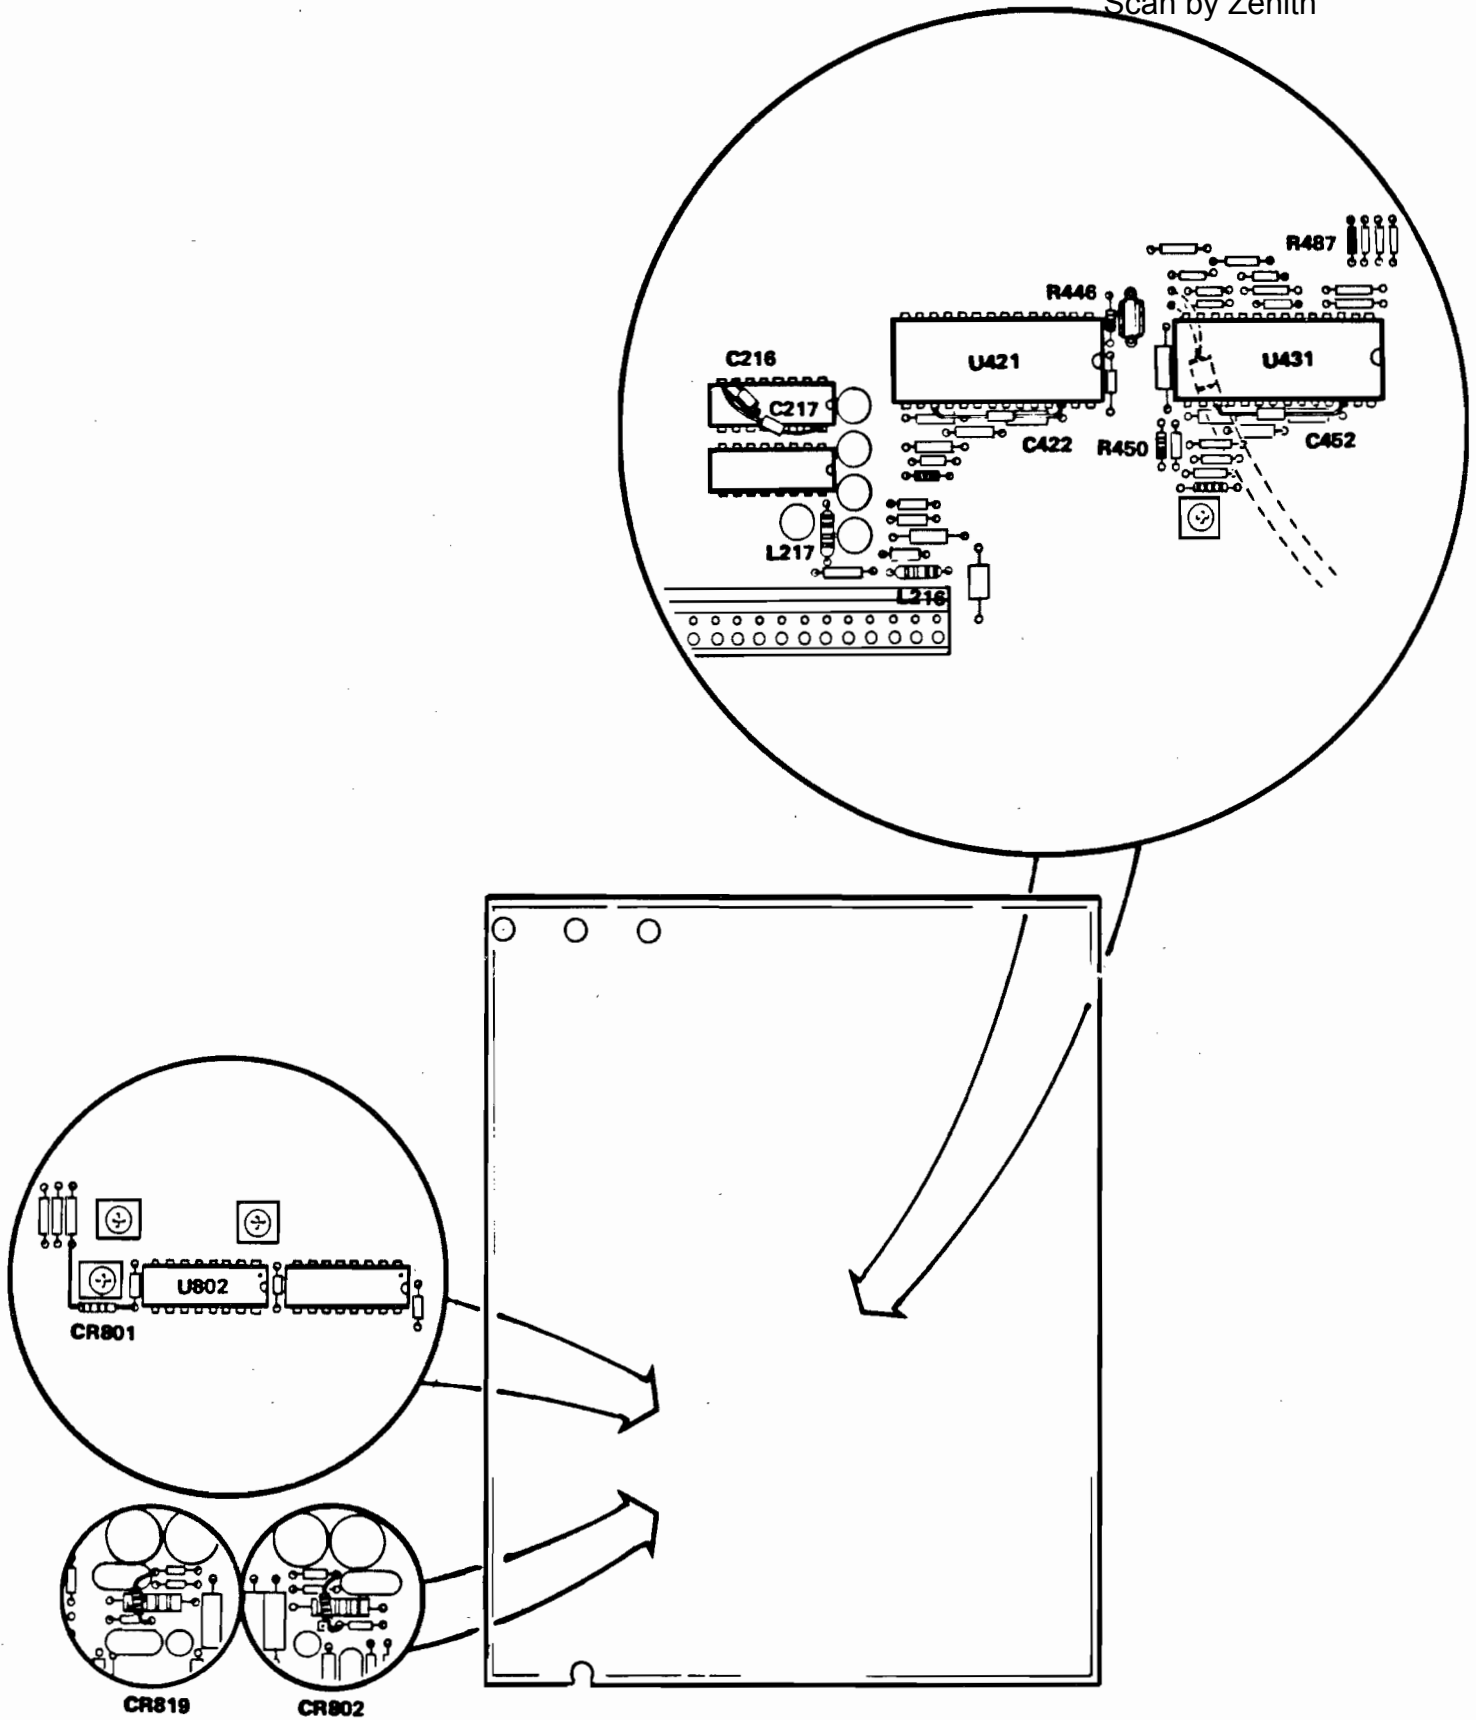

Fig. 2 - Main Board Modifications
- () 13. Add CR801 (may already be present on 2245's above B010374 or 2246's above B040932): cathode to W804 and anode to the end of C816 going to -5V (see Fig. 2).
- () 16. Relocate C422 and C452 (fresh components are provided in the kit): C422 to U421, pins 17 to 26 and C452 to U431, pins 17 to 26 (see Fig. 2). Please note that this is not an electrical change; schematically C422 and C452 are in the same location.
- () 17. Relocate C216 (a new capacitor is included in the kit) to U202, pins 7 to 8 (see Fig. 2).
- () 18. Add C217 (0.022 μ F capacitor from the kit) from U202, pin 8 to pin 16 (see Fig. 2).